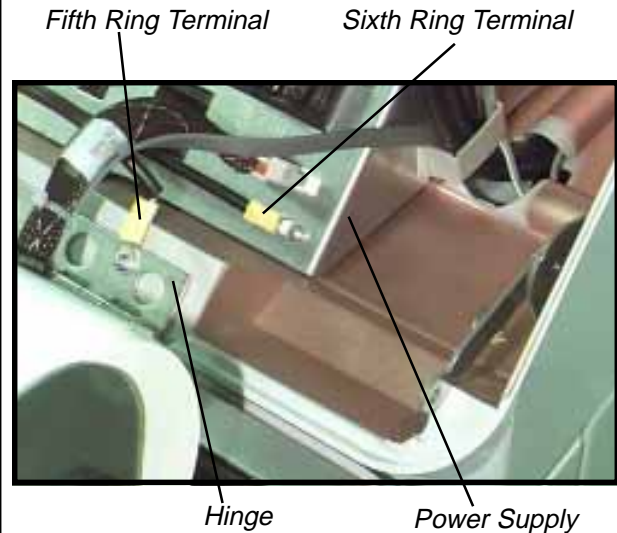
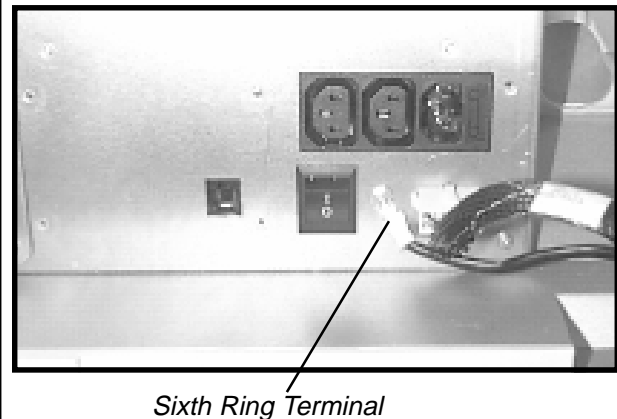

Figure 6. Fifth Ring Terminal Connected to Top Enclosure Hinge. Sixth Ring Terminal shown connected to Power Supply PN 09600-02006.
Figure 7. Sixth Ring Terminal connected to Power Supply PN 09800-02039.
7. Attach the FIFTH Ring Terminal to the Top Enclosure Hinge, as shown in Figure 6.
Orient the sleeve of the Fifth Ring Terminal as shown in Figure 6 to avoid problems closing the Top Enclosure cover!
8. If using Power Supply PN 09600-02006, attach the SIXTH Ring Terminal to the Power Supply Chassis as shown in Figure 6. If using Power Supply PN 09800-02039, attach the SIXTH Ring Terminal as shown in Figure 7, using the included 6-32 Hex Nut and Washer combination.